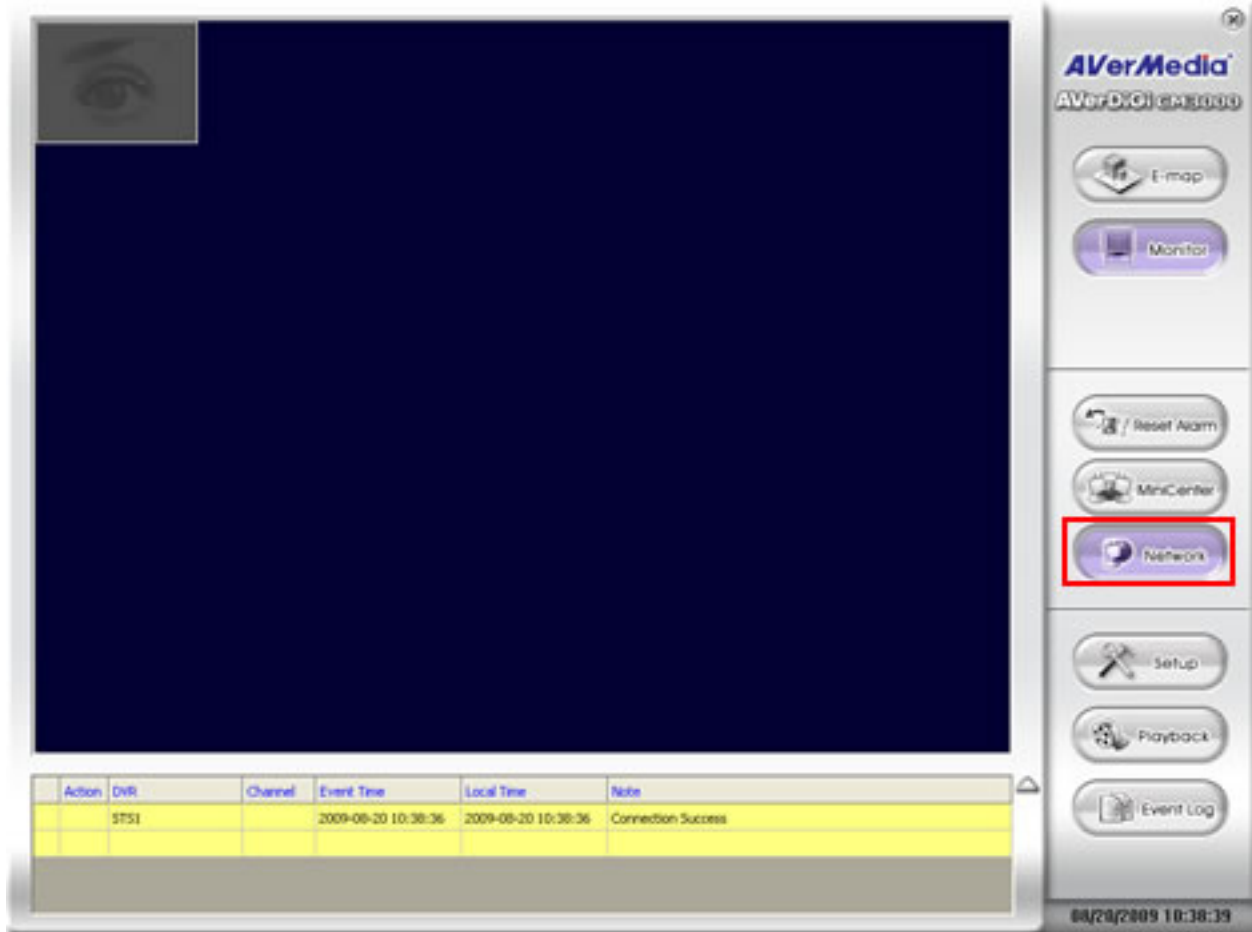

Figure 143. AAR - Network Button
5. After the DVR Software has finished opening ensure that the [NETWORK] button is highlighted/active (Figure 143).